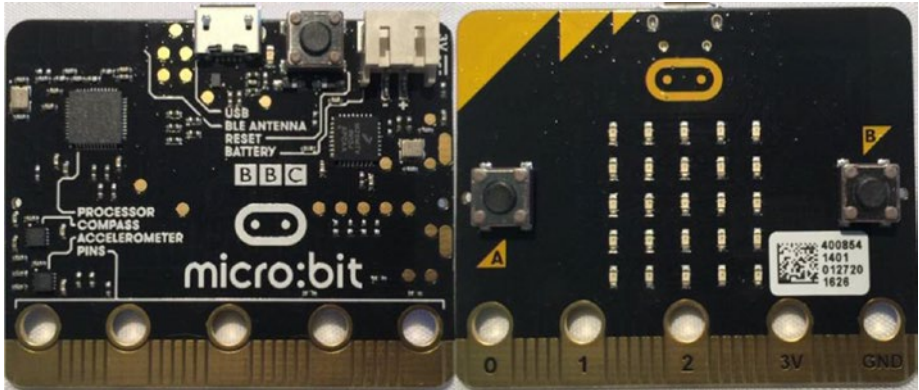

Figure 3-23. The BBC micro:bit Board (front and back)
On one side is an array of programmable LEDs and two buttons. On the other side are the components including the processor, micro USB connector, reset button, and battery connector. The board has its GPIO header arranged along the bottom edge and is also two sided. A set of large-holed pins (called alligator pins) are spaced evenly that allow you to ground, power (3V), and (3) GPIO pins. This makes using the board with an edge connector simple. Figure 3-23 shows the front and back of the BBC micro:bit board.